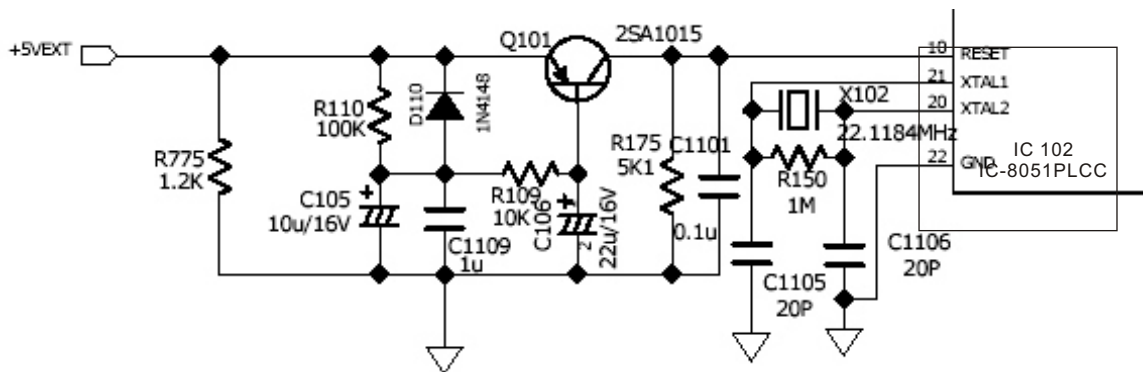

Figure 3.2.1.1 System reset circuit diagram
(1) System reset circuit is shown in the figure 3.2.1.1:
(2) Working principle: this circuit is a typical and high level effective reset circuit. After power on, "+5VEXT" skips from 0V to 5V to supply power for system control circuit and also charge C105 through R110 at the same time. Since voltage on two ends of C105 cannot change suddenly, now 5V power supplies a high level reset signal to pin 10 of Ic102 through C-E electrode of Q101 to reset W79E632A40PN. After capacitor C106 is fully charged, voltage on two ends is close to 5V, and now Q101 cuts off and voltage of pin 10 of W79E632A40PN restores to low level to finish reset action. Reset time of this circuit is about 100MS, shown in figure 2, and this time depends on the value of R110 and C105. Function of D110 in figure 3.2.1.1 is discharge C106 quickly after power off to ensure the reliable reset when power on for the second time. Default of this circuit is that after power on this player cannot enter standby state or system down.